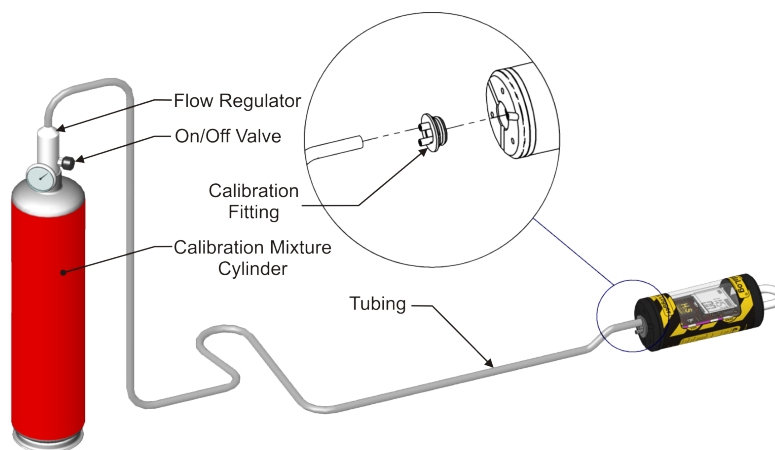

Figure 6 - Calibration Mixture Connections
- Insert the calibration fitting [Part No 11-0001] over the sensor in the bottom of the OdaLog®, as shown in Figure 6.
- Attach regulator to gas cylinder and fit plastic tubing over an inlet on the calibration adaptor (Figure 6).